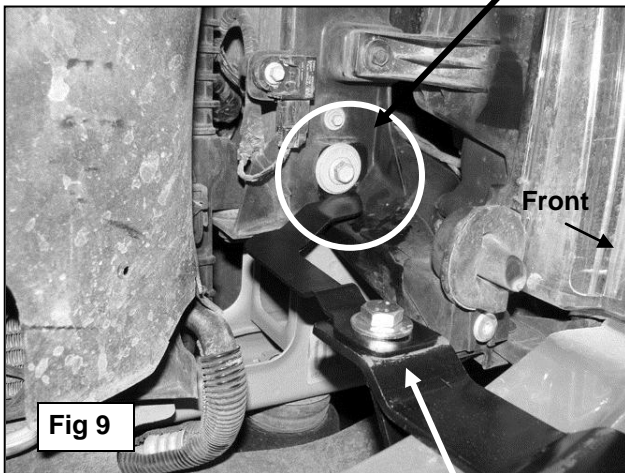

Fig 9
- 7.** Select the driver side Top Support Brace. Remove the factory hex bolt in the radiator mount. Bolt the Support Brace in place with the factory hex bolt, (**Figure 9**). Leave loose at this time. Select the driver side Top Bracket and insert it between the Support Bracket and the Rear Brace. Line up the holes in the (3) Brackets and bolt together with (1) 12mm x 35mm Hex Bolt, (1) 12mm Flat Washer and (1) 12mm Lock Washer, (**Figure 10**). Do not tighten hardware at this time.